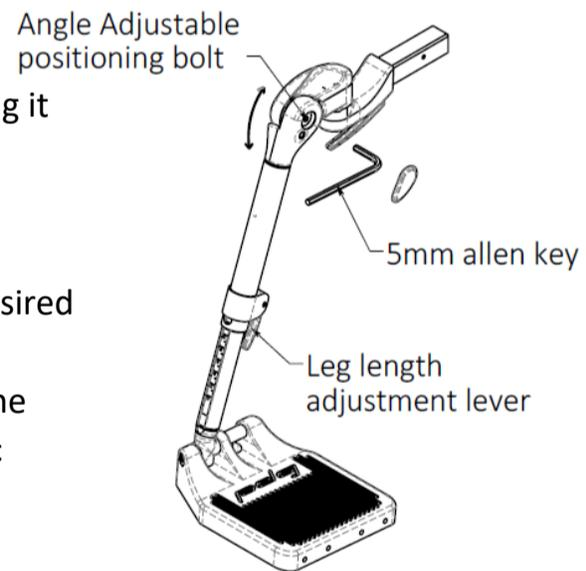

Figure 15.19: Easy-Out Angle Adjustable Front Rigging
- a. Release the footrest extension adjustment lever. This is shown in Figure 15.19.